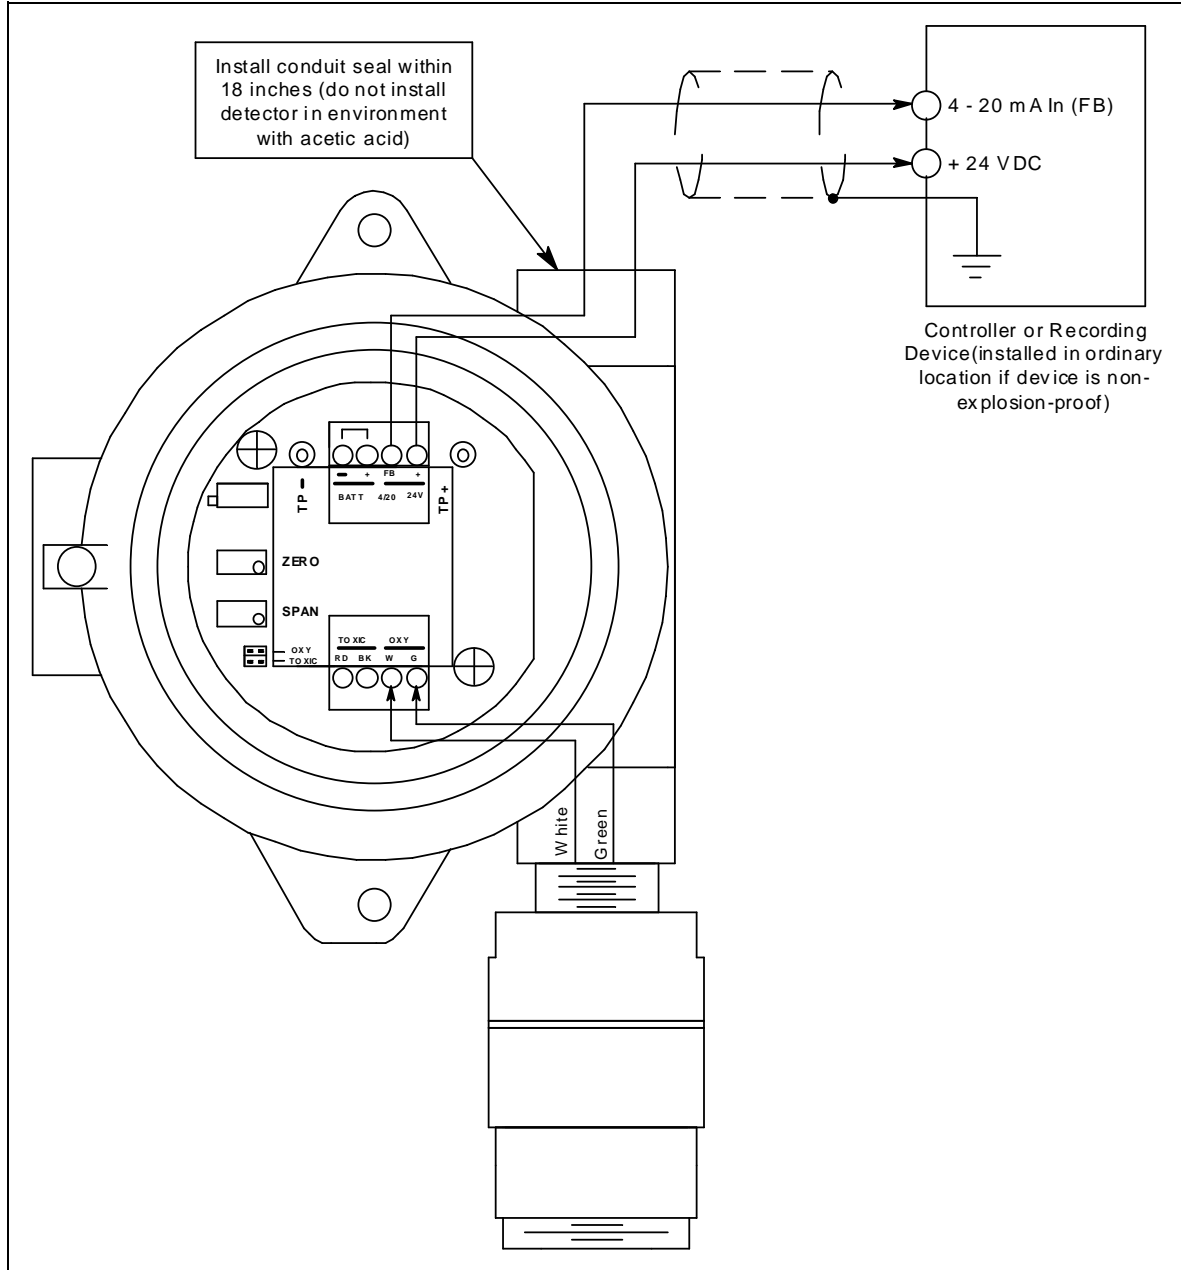

Figure 3: Wiring the Oxygen Transmitter to a Controller
4. Verify that the detector leads are wired to the amplifier's detector terminal strip. If necessary, connect the detector leads to the detector terminal strip as shown in Figure 3.
5. Verify that the jumper block is installed over the **Oxygen** selector of the amplifier type selector as shown in Figure 3.
7. Connect the two wires to the interconnect terminal strip as follows (see Figure 3).
10. Connect the wires to the applicable controller transmitter terminal strip as shown in Figure 3.
9. Verify that the jumper block is installed over the **OXYGEN** selector of the amplifier type selector as shown in Figure 3.
10. Reconnect the wiring from the controller to the interconnect terminal strip as shown in Table 3 and Figure 3.
11. Reconnect the detector leads to the detector terminal strip as shown in Table 4 and Figure 3.
7. Connect the detector leads to the detector terminal strip as shown in Table 4 and Figure 3.